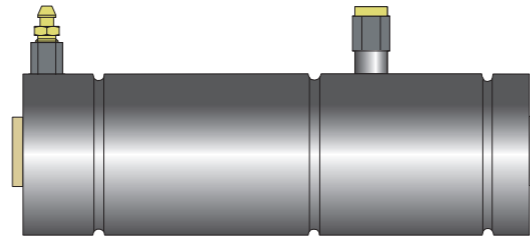

Figure 13: Working cylinder
8.4 Working cylinder (Fig. 13)